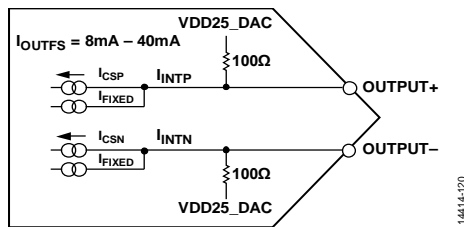

Figure 137. Equivalent DAC Output Circuit
The AD9164 provides complementary current outputs, $OUTPUT+$ and $OUTPUT-$, that sink current from an external load that is referenced to the 2.5 V $VDD25_DAC$ supply. Figure 137 shows an equivalent output circuit for the DAC. Compared to most current output DACs of this type, the outputs of the AD9164 consists of a constant current (I_{FIXED}), and a peak differential ac current, I_{CS} ($I_{CS} = I_{CSP} + I_{CSN}$). These two currents combine to form the I_{INTX} currents shown in Figure 137. The internal currents, I_{INTP} and I_{INTN} , are sent to the output pin and to an input termination resistance equivalent to 100 Ω pulled to the $VDD25_DAC$ supply (R_{INT}). This termination serves to divide the output current based on the external termination resistors that are pulled to $VDD25_DAC$.
The example shown in Figure 137 can be modeled as a pair of dc current sources that source a current of I_{OUT} to each output. This differential ac current source is used to model the signal (that is, a digital code) dependent nature of the DAC output. The polarity and signal dependency of this ac current source are related to the digital code (F) by the following equation: